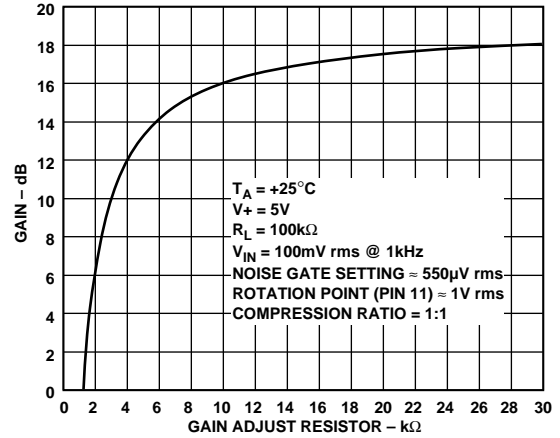
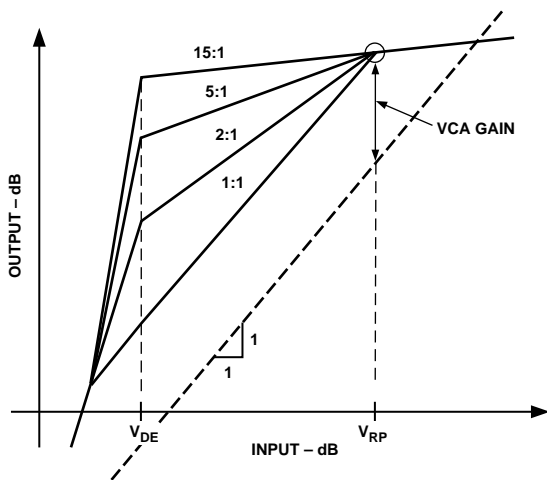
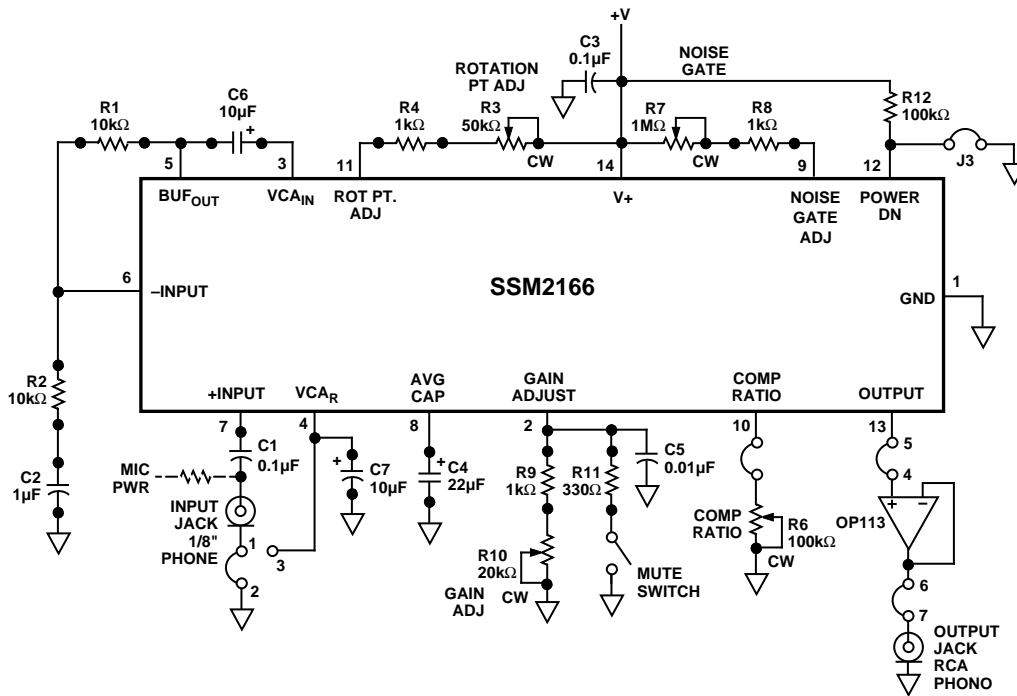
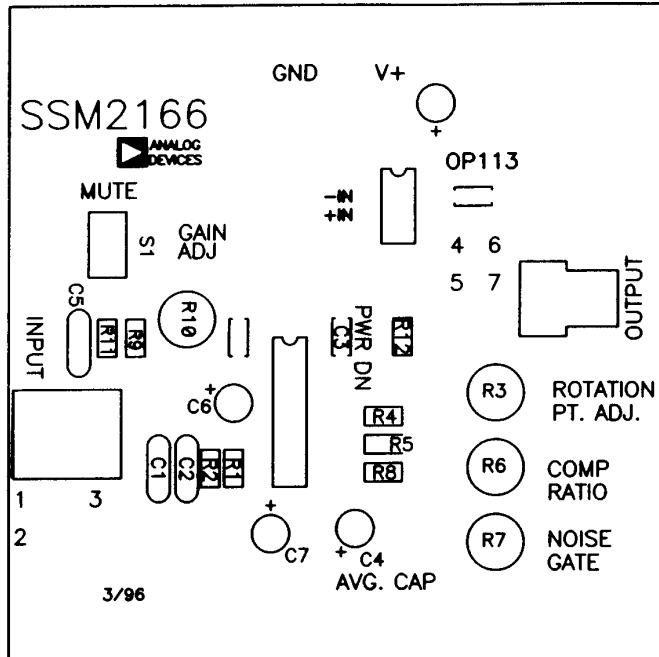

Figure 6. VCA Gain vs.  $R_{GAIN}$  (Pin 2 to GND)
Figure 16. Effect of Varying the Compression Ratio
Figure 22. Evaluation Board
Figure 23a. Evaluation Board Topside Silkscreen (Not to Scale)
The gain of the VCA at the rotation point is set by the value of a resistor connected between Pin 2 and GND,  $R_{GAIN}$ . The relationship between the VCA gain and  $R_{GAIN}$  is shown in Figure 6. The AGC range of the SSM2166 can be as high as 60 dB. The  $VCA_{IN}$  pin (Pin 3) on the SSM2166 is the noninverting input terminal to the VCA. The inverting input of the VCA is also available on the SSM2166's Pin 4 ( $VCA_R$ ) and exhibits an input impedance of 1 k $\Omega$ , as well. As a result, this pin can be used for differential inputs or for the elimination of grounding problems by connecting a capacitor whose value equals that used in series with the  $VCA_{IN}$  pin, to ground. See Figure 22, SSM2166 Evaluation Board for more details.
**Compression Ratio.** Changing the scaling of the control signal fed to the VCA causes a change in the circuit's compression ratio, "r." This effect is shown in Figure 16. The compression ratio can be set by connecting a resistor between the COMP RATIO pin (Pin 10) and GND. Lowering  $R_{COMP}$  gives smaller compression ratios as indicated in Figure 5, with values of about 17 kΩ or less resulting in a compression ratio of 1:1. AGC performance is achieved with compression ratios between 2:1 and 15:1, and is dependent on the application. A 100 kΩ potentiometer may be used to allow this parameter to be adjusted. On the evaluation board (Figure 22), an optional resistor can be used to set the compression equal to 1:1 when the wiper of the potentiometer is at its full CCW position.
A schematic diagram of the SSM2166 evaluation board, available upon request from Analog Devices, is illustrated in Figure 22. As a design aid, the layouts for the topside silkscreen, topside and backside metallization layers are shown in Figures 23a, b, and c. Although not shown to scale, the finished dimension of the evaluation board is 3.5 inches by 3.5 inches, and comes complete with pin sockets and a sample of the SSM2166.
Signal sources are connected to the SSM2166 through a 1/8" phone jack where a 0.1  $\mu\text{F}$  capacitor couples the input signal to the SSM2166's +IN pin (Pin 7). As shown in Figure 22 and in microphone applications, the phone jack shield can be optionally connected to the board's ground plane (Jumper J1 inserted into board socket pins labeled "1" & "2") or to the SSM2166's  $\text{VCA}_R$  input at Pin 4 (Jumper J1 inserted into board socket pins labeled "1" & "3"). If the signal source is a waveform or function generator, the phone jack shield is to be connected to ground.
To illustrate how easy it is to program the SSM2166, we will take a practical example. The SSM2166 will be used interface an electret-type microphone to a post-amplifier. You can use the evaluation board or the circuit configuration shown in Figure 22. The signal from the microphone was measured under actual conditions to vary from 1 mV to 15 mV. The post-amplifier requires no more than 500 mV at its input. The required gain from the SSM2166 is, therefore:
If you build your own breadboard, keep the leads to Pins 3, 4, and 5 short. A convenient evaluation board is available from your sales representative. The R & C designations refer to the demonstration board schematic of Figure 22 and parts list, Figure 28.